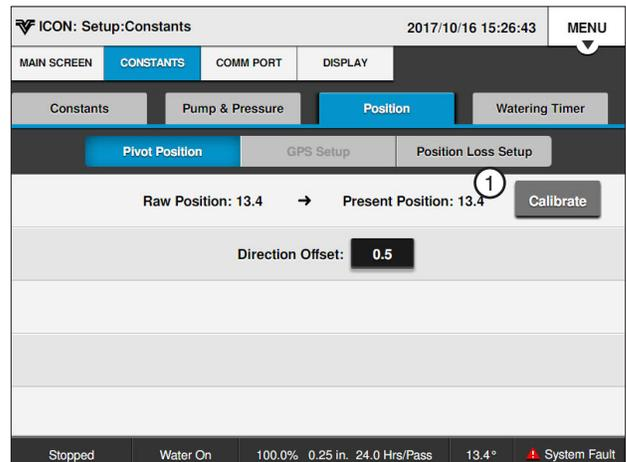

Figure 27-2 Pivot Position Screen
3. Push **Menu**, **Setup**, **Constants**, **Position** and **Pivot Position** to view the Present Position of the machine. Refer to Figure 27-2.